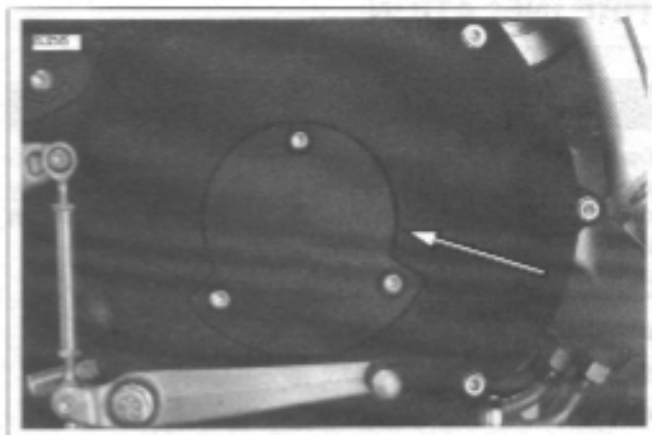
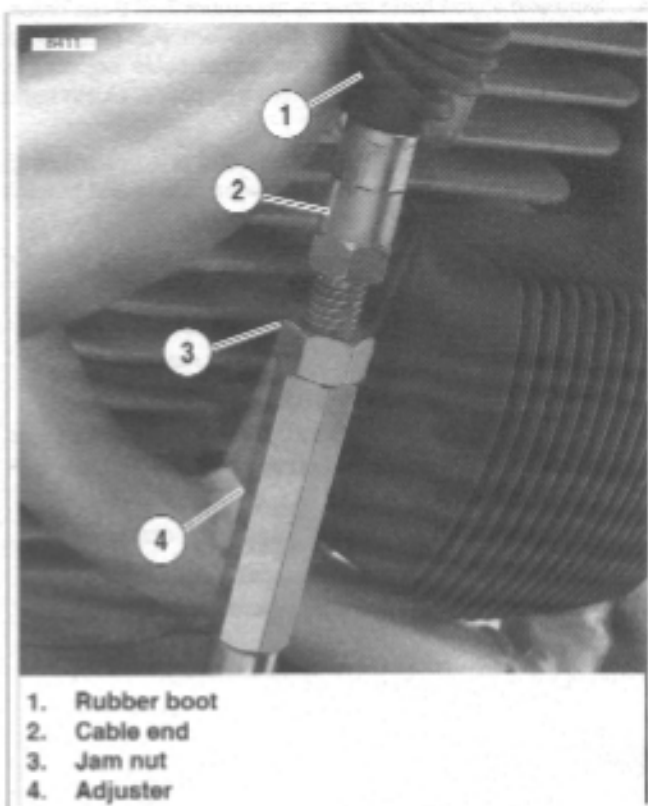

Figure 1-17. Clutch Inspection Cover
Figure 1-20. Clutch Cable Adjuster Mechanism
6. See Figure 1-17. Install clutch inspection cover tightening three fasteners and washers to 7-9 ft-lbs (10-12 Nm).
2. See Figure 1-20. Slide rubber boot (1) upward to expose adjuster mechanism. Loosen jam nut (3) from adjuster (4). Turn adjuster to shorten cable housing until there is a large amount of free play at clutch hand lever.
3. See Figure 1-17. Remove three fasteners and washers from clutch inspection cover. Remove clutch inspection cover and gasket from primary cover.
- b. See Figure 1-20. Set free play by turning adjuster (4).
- c. Tighten jam nut (3) against adjuster (4).
- d. Slide boot (1) over cable adjuster mechanism.
8. See Figure 1-17. Install clutch inspection cover and gasket using three fasteners and washers and tighten to 7-9 ft-lbs (10-12 Nm).